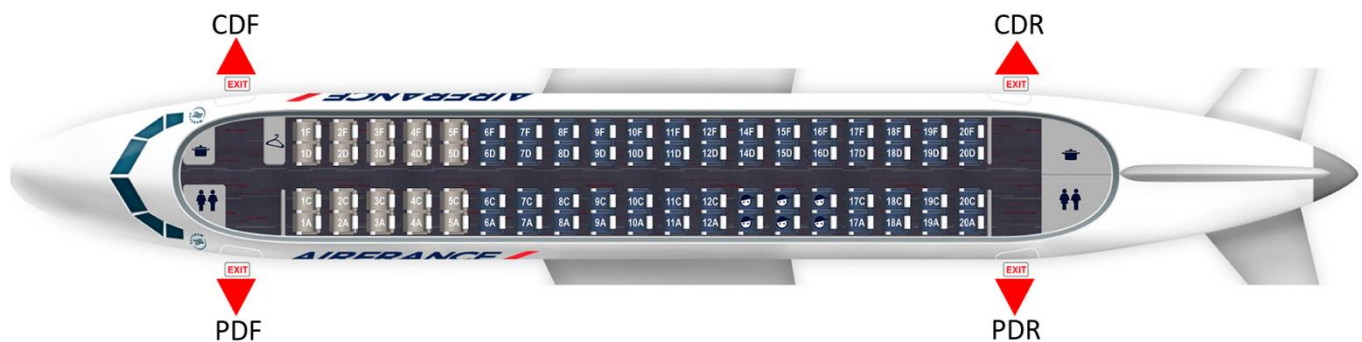

Figure 1. Embraer E170/E190 Aircraft Identification and Location.
- 2.1.1 Four (4) Aircraft Door Barrier Nets are supplied to fit each door on an Embraer E170/E190 Aircraft. See figure 1 showing the aircraft layout and door positions.
- 2.1.4 The aircraft door barrier net is fitted to 4 off aircraft door brackets located around each aircraft door frame shown in Figure 1.